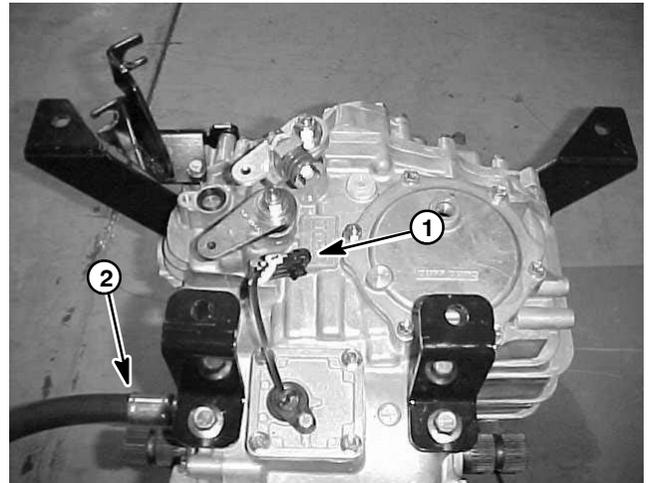
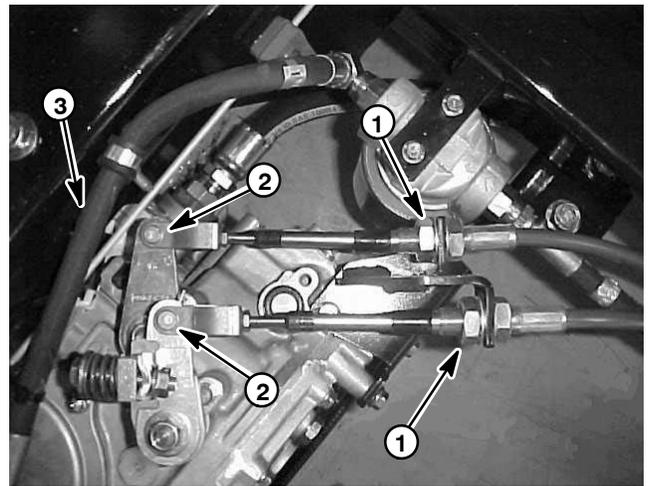
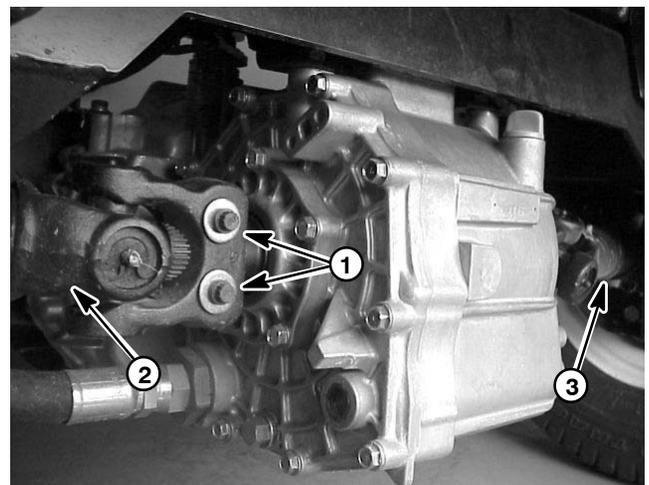

Figure 25
Figure 26
Figure 27
5. Unplug speed sensor connector from machine wire harness (Fig. 25).
6. Label shift cables to ease reassembly. Loosen shift cable jam nuts at cable mount (Fig. 26). Remove cotter pin and clevis pin that attach shift cable ends to transaxle shift arm levers. Pull shift cables free from mount.
8. Disconnect hydraulic return hose from top of transaxle (Fig. 26). Locate, remove, and discard hose o–ring.
9. Disconnect suction hose from transaxle (Fig. 25). Locate, remove, and discard suction hose o–ring. Position suction hose away from transaxle.
11. Remove two (2) R–clamps that secure LH parking brake cable to front transaxle mount.
13. Loosen and remove cap screws, hardened washers, and lock nuts that secure driveshafts (both right and left sides) to transaxle axle shafts (Fig. 27). Remove both driveshafts from machine.
- E. Install cap screws, hardened washers, and lock nuts to secure driveshafts to transaxle axle shafts (Fig. 27).
7. Secure LH parking brake cable to front transaxle mount with two (2) R-clamps.
10. Position shift cables to cable mount noting cable identification made during disassembly. Center the cable threads to the cable mounts and secure cables with jam nuts (Fig. 26).
13. Plug speed sensor connector into wire harness (Fig. 25).